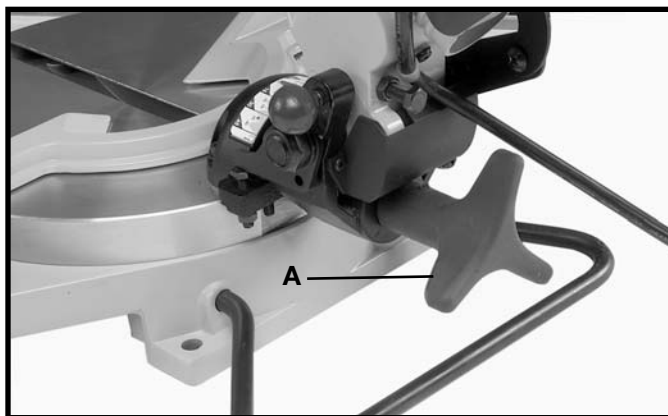

Fig. 20
The cuttinghead of the saw can be tilted to cut any bevel angle from 0 degrees to 45 degrees, left or right. Loosen the bevel lock handle (A) Fig. 20, tilt the cutting arm to the desired angle, and tighten the lock handle.